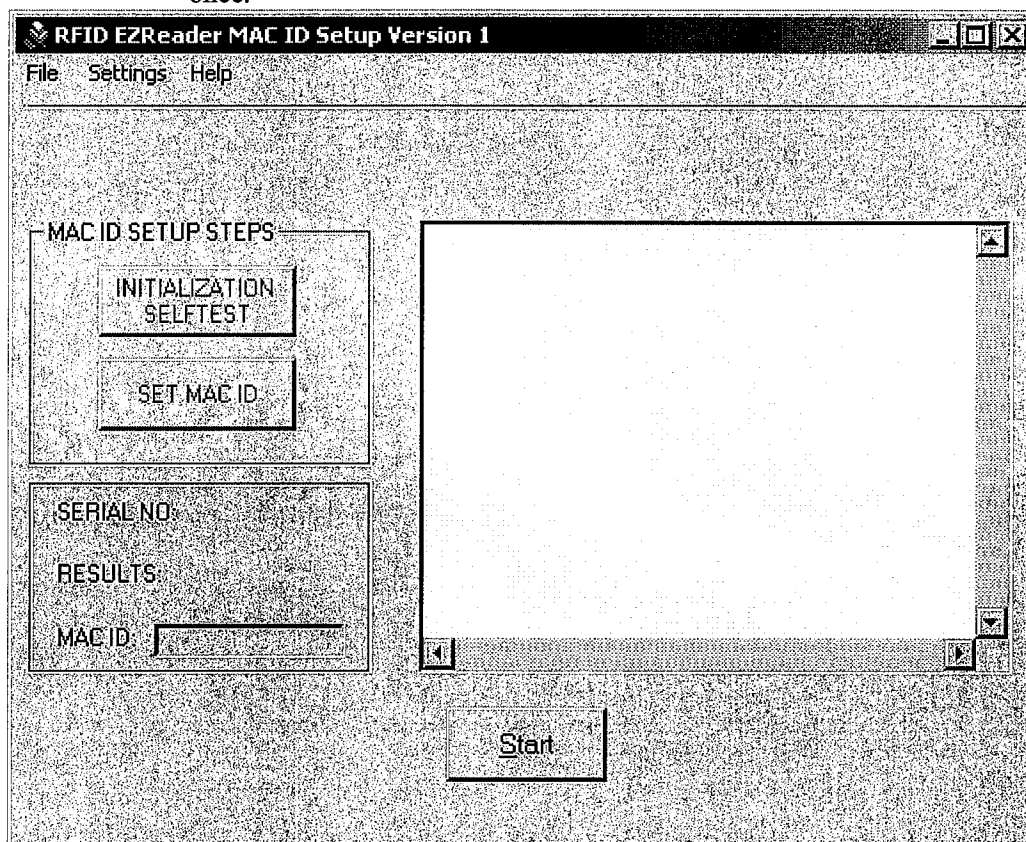

Figure 31
- 9.15 Program MAC ID into DUT using RFID EZReader MAC ID Setup program. See Figure 31.